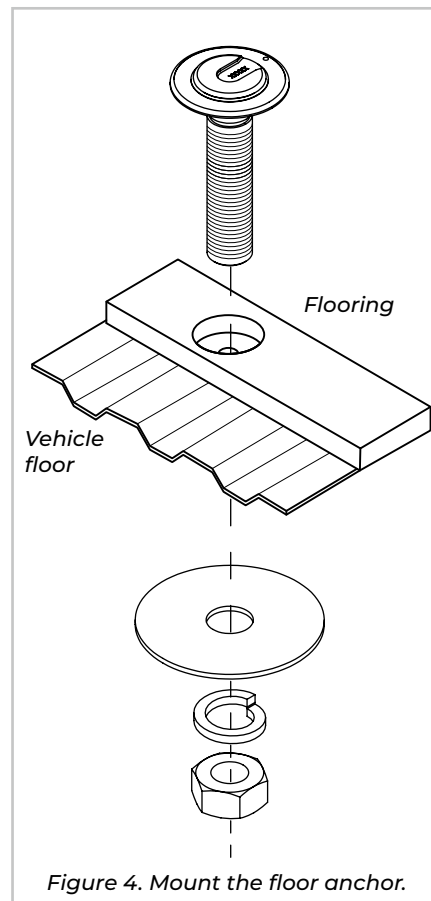

*Figure 3. Counterbore a hole.*
- 4** Drill a 25 mm hole through all layers of the car floor and counterbore the hole to 32 mm with a depth of 8 mm (Figure 3).